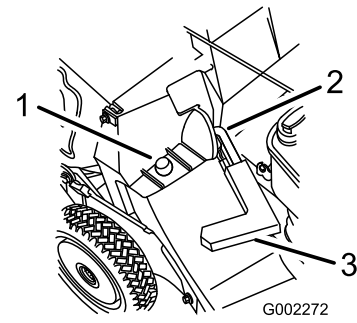

Figure 17
2. Ensure that the discharge door handle is fully forward and that the pin is engaged in the catch (Figure 17).
3. Slide the hole in the bag frame onto the retaining post on the discharge tunnel (Figure 17).
2. Raise the discharge door handle and move it forward to engage the pin with the catch (Figure 17).